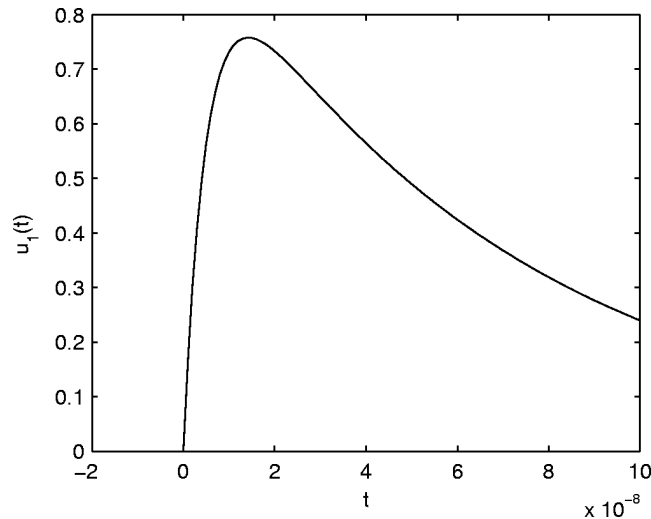

Figure 22-6: Double exponential impulse (second type)
5. Double exponential impulse (second type) DBLEXP / DBLEXP (see Figure 22-6)